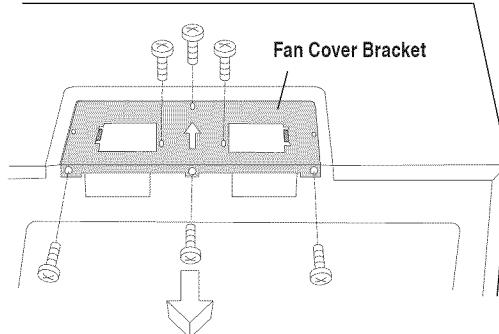

Figure 11
1. Remove and save 3 screws from back edge and 3 screws from the top center of the Fan Cover Bracket. Remove Fan Cover Bracket by sliding it in the opposite direction of the arrow on the Fan Cover Bracket as shown in Figure 11.